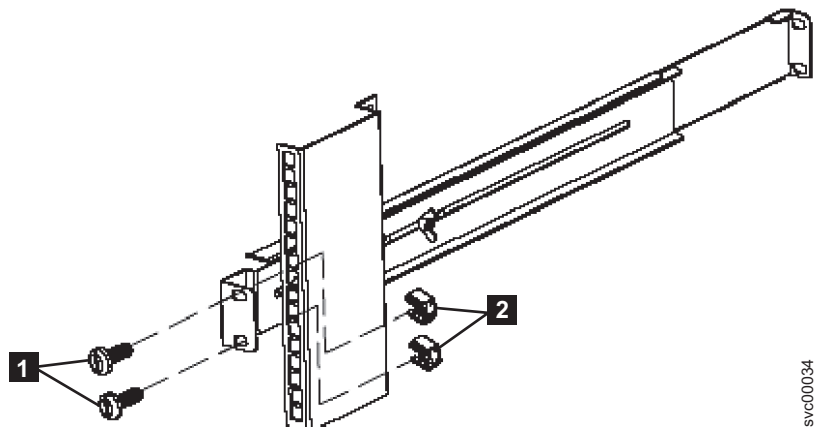

Figure 26. Securing the rear rail on the 2145-1U uninterruptible power supply
7. Using two M6 × 10 screws (**1** in Figure 26) and two clip nuts (**2**), attach the rail to the rear of the rack. The customer's rack might be different than the one shown here, and if so, might require different clip nuts or fasteners.